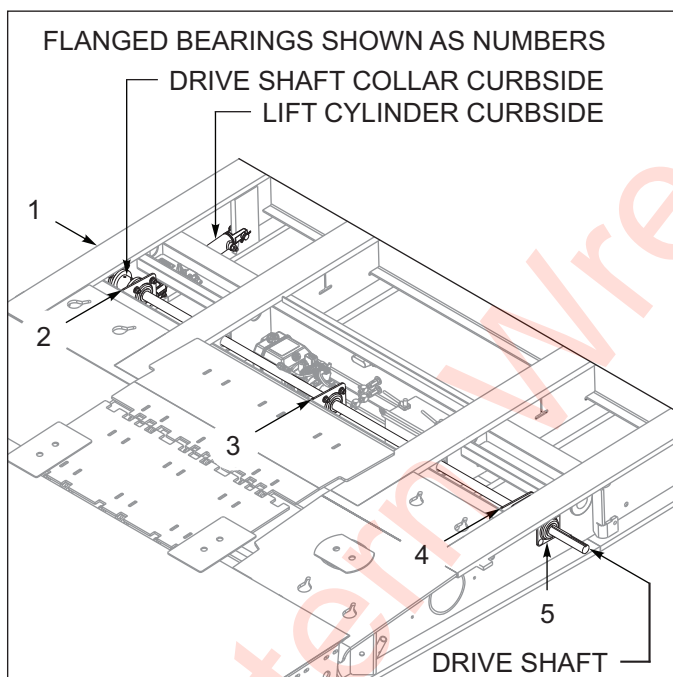

Figure 5-26: Flange Bearings
1. Install flanged bearings #1, #2, and #3 on the curbside of the mount brackets. Install flanged bearings #4 and #5 on the streetside of the mount brackets. Position grease fittings for easy access. Secure with four carriage bolts, four flat washer, and four lock nuts per flanged bearing. **See Figure 5-26** and **See General Torque Specifications on Page 2-3.**